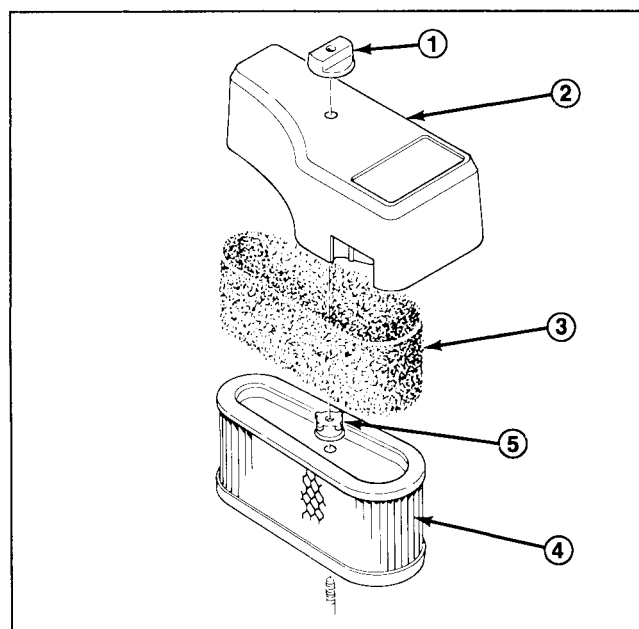

Figure 16
2. Remove knob and air cleaner cover (Fig. 16).
3. Every 25 hours the foam pre-cleaner should be cleaned (Fig. 16). Remove foam pre-cleaner by sliding it off the paper cartridge (Fig. 16).
4. The paper air cleaner cartridge should be replaced every 100 hours. Remove (1) one nut from top of paper cartridge (Fig. 16).